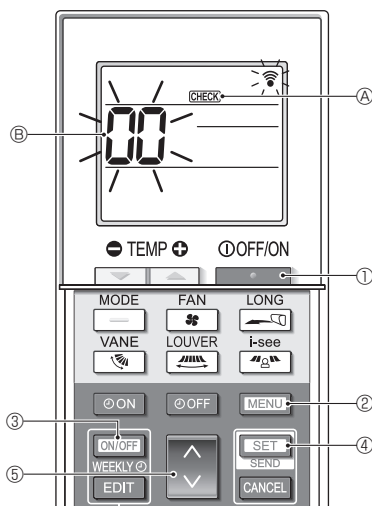

Fig. 7-6
■ Self-check (Fig. 7-6)
- Press the **ON/OFF** button ① to stop the air conditioner.
- If the weekly timer is enabled (**WEEKLY** is on), press the **ON/OFF WEEKLY** button ③ to disable it (**WEEKLY** is off).
- Press the **MENU** button ② for 5 seconds.
- CHECK** ④ comes on and the unit enters the self-check mode.
- Press the **DOWN** button ⑤ to select the refrigerant address (M-NET address) ⑥ of the indoor unit for which you want to perform the self-check.
- Press the **SET** button ④.
- Press the **ON/OFF** button ①.
- CHECK** ④ and the refrigerant address (M-NET address) ⑥ go off and the self-check is completed.